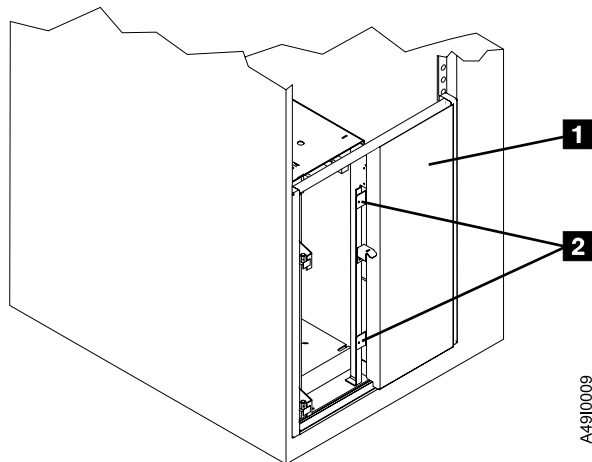

Figure 13. Filler Plate Installation
- ___ Step 23. Position the filler plate 1 in bezel opening next to the library so the tabs 2 without screw holes slip into the slot in the bezel strip at the side of the rack and the tabs with screw holes align with the holes in the library frame. See Figure 13.
- ___ Step 24. Using 2 screws, fasten the filler plate to the library. See Figure 13.